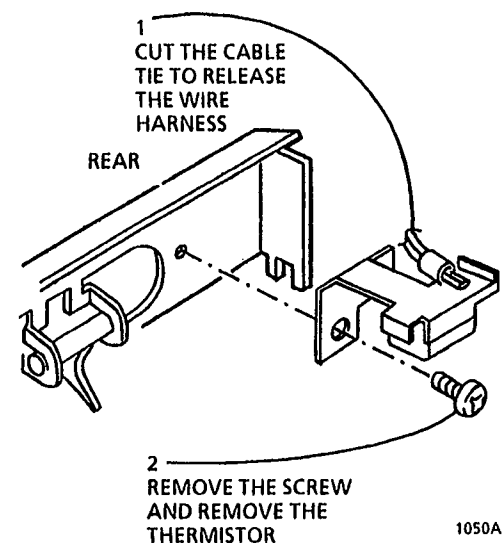

Figure 3. Removing the Thermistor
6. (Figure 3): Remove the thermistor.